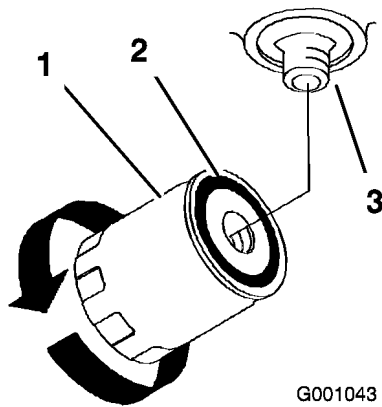

Figure 60
4. Apply a thin coat hydro fluid to the rubber gasket on the replacement filter (Figure 60).
6. Fill the hydraulic tank with hydraulic fluid until the fluid overflows the filter and then turn the oil filter clockwise until the rubber gasket contacts the filter adapter, then tighten the filter an additional 1/2 turn (Figure 60).